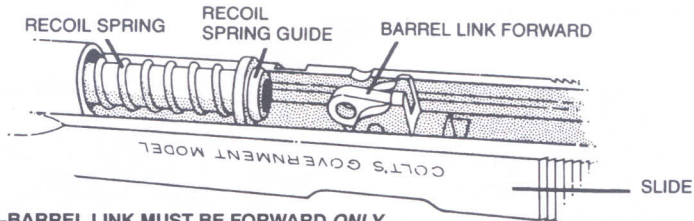

FIGURE 10—BARREL LINK MUST BE FORWARD ONLY FOR BARREL TO BE REMOVED AND ASSEMBLED THROUGH THE SLIDE.
8. **(A & B)** Lift recoil springs and guide and pull them rearward out of slide. (See Figure 10).
1. **(A & B)** With slide upside down and barrel link forward, assemble barrel into the slide, as in Figure 10.